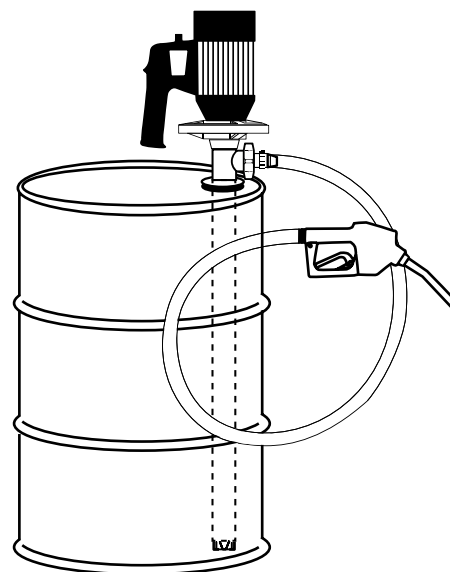

Figure 4
4. Always install the pump in a vertical manner (See Figure 4).